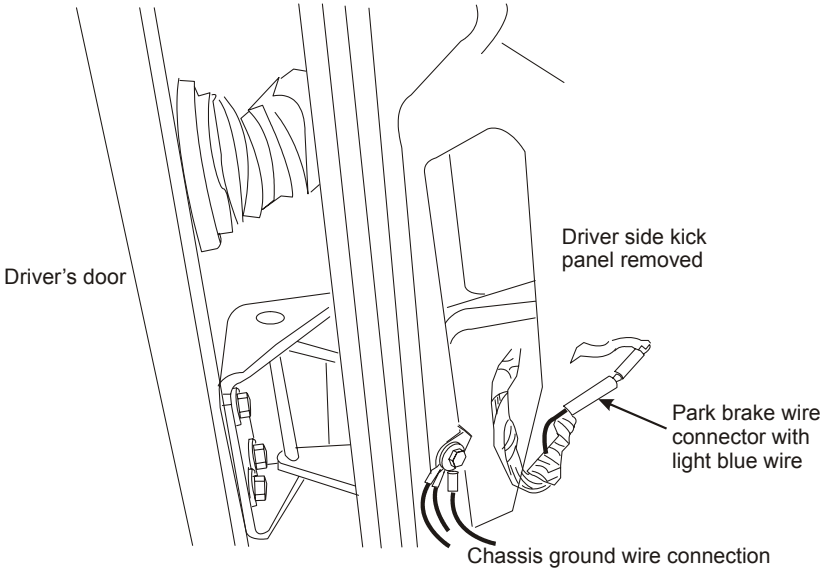
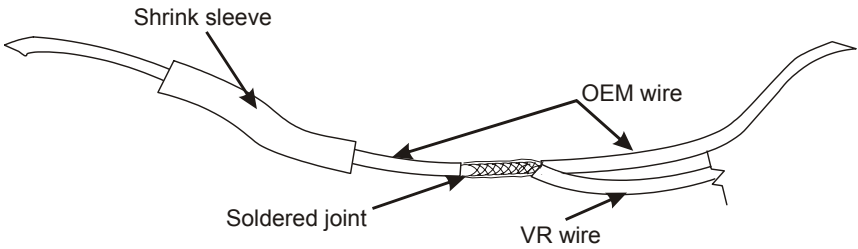

Figure 4.1
Figure 4.2
- Remove the kick panel on the front driver's side of the cab. Locate the park brake connector with a light blue wire next to the chassis ground wire bolted to the body (Figure 4.1). Solder the black wire from the DDC to this wire and seal the connection with a shrink sleeve. The preferred connection method is shown in Figure 4.2.